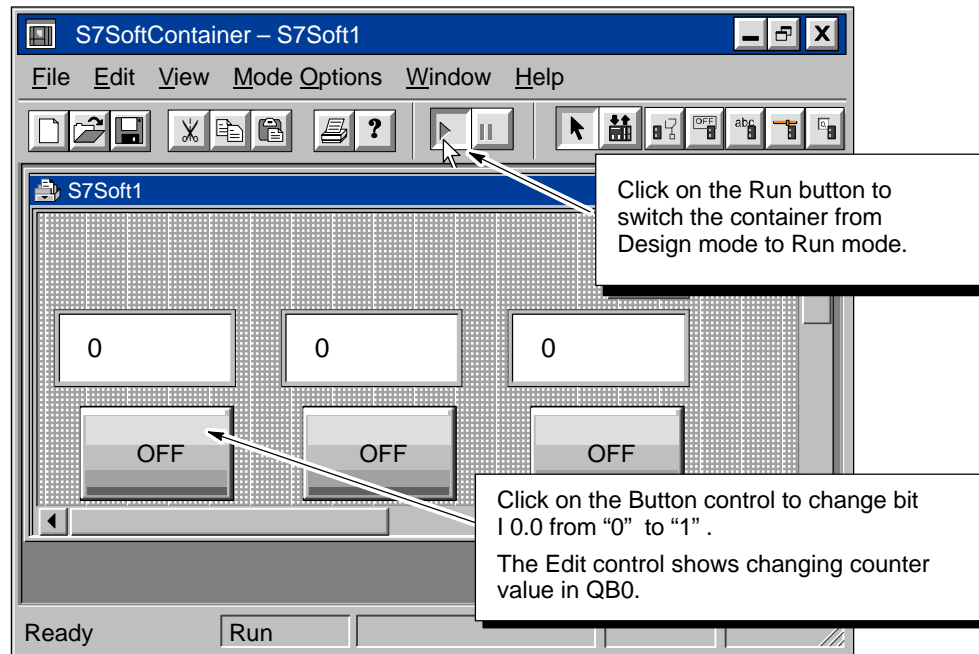

Figure 1-22 Placing the Container into Run Mode
1. Click on the Run icon (or select the **Mode > Run** menu command) to switch the container from Design mode to Run mode. See Figure 1-22.